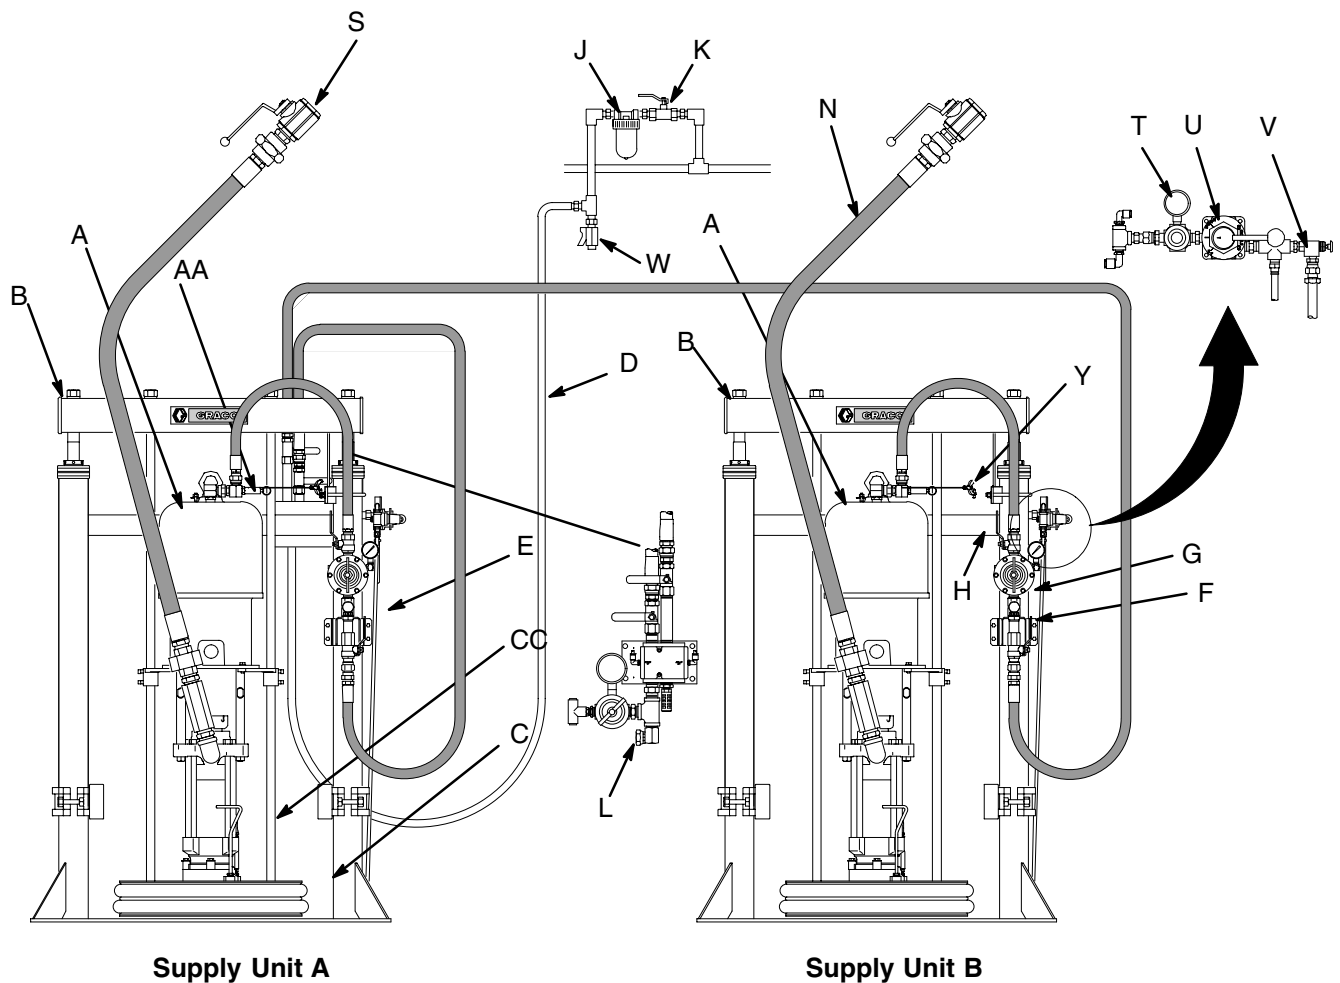
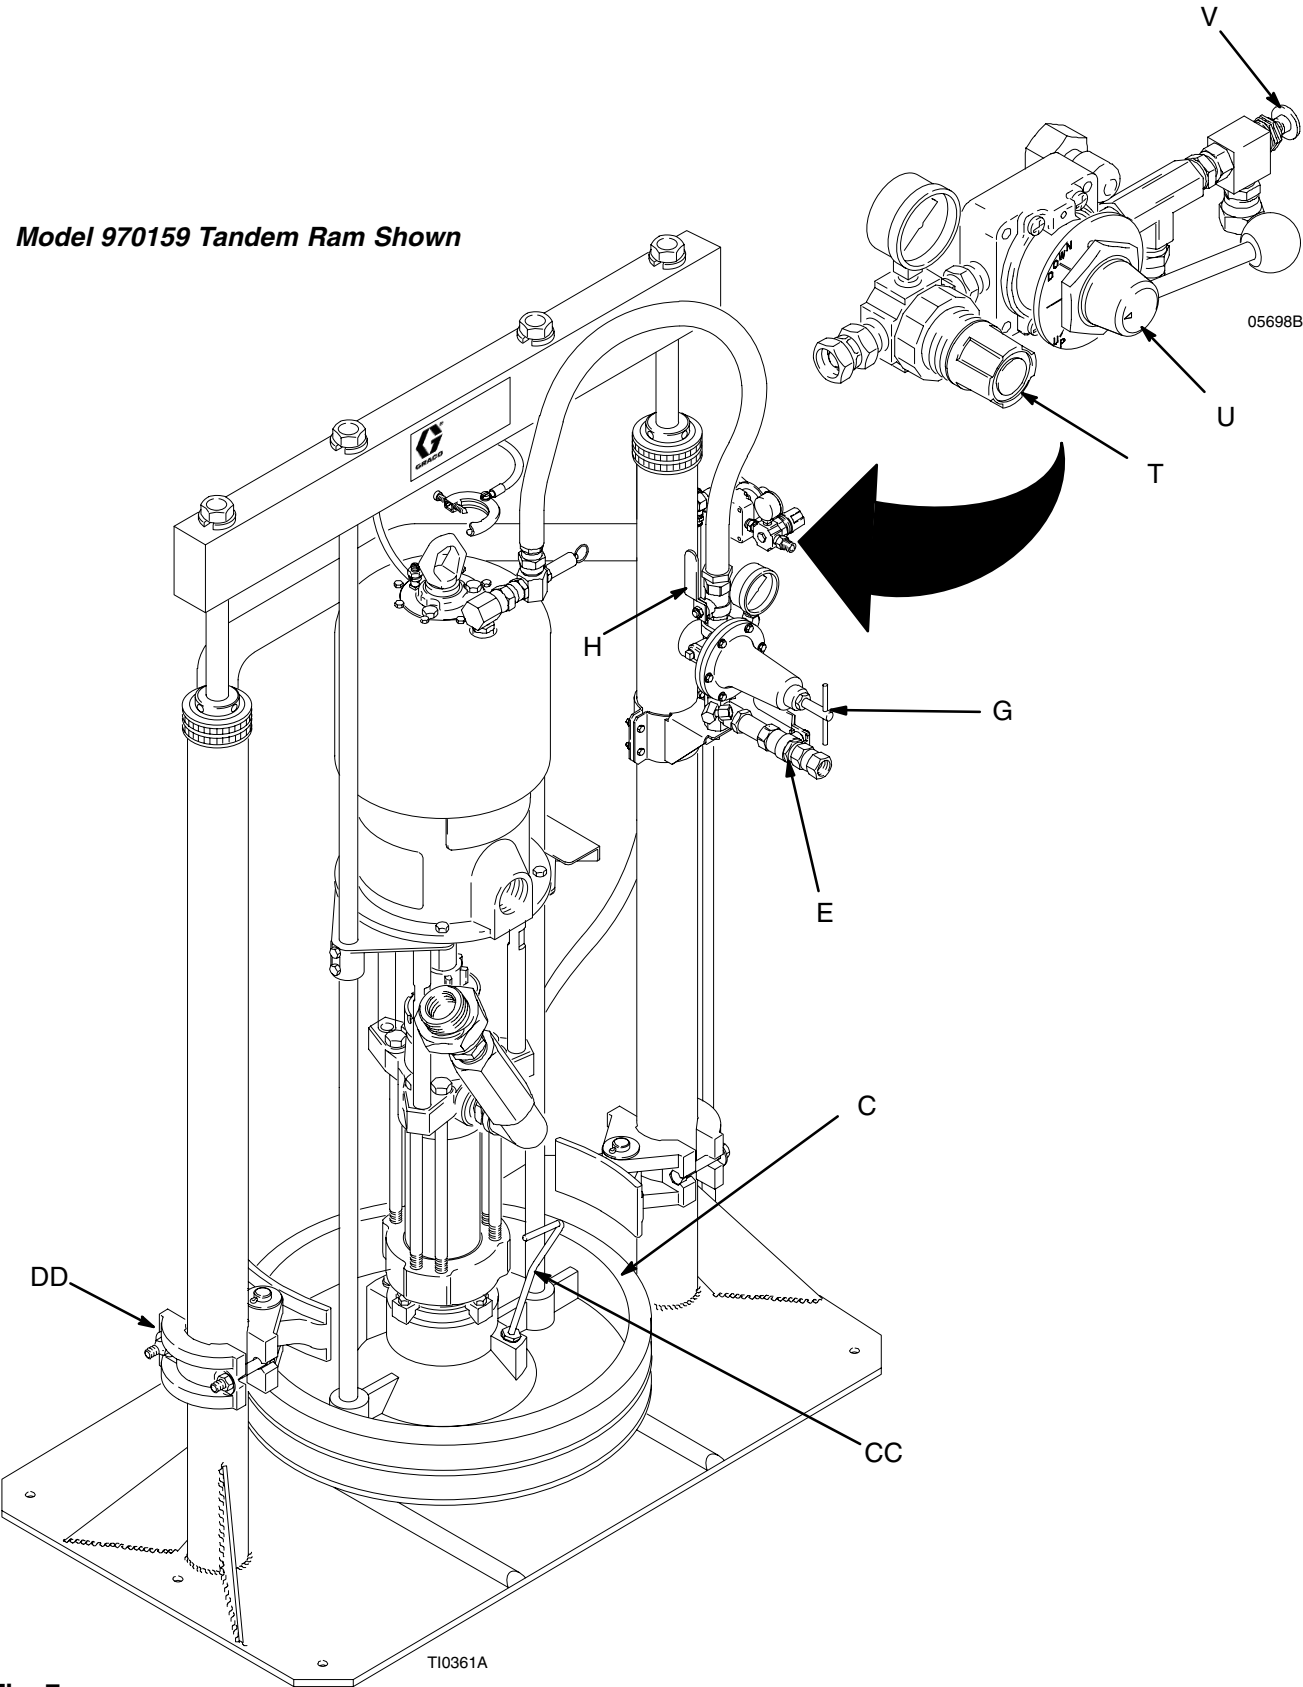

Fig. 1
Fig. 7
System 970159 includes a dual 55 gallon supply unit with pneumatic crossover for continuous material supply. System 970160 includes a dual 55 gallon supply unit with electric crossover for continuous material supply. System 970163 is a single 55 gallon supply unit with a low-level shutoff. See Fig. 1.
Be sure all air hoses (D) and fluid hoses (N) are properly sized and pressure-rated for your system. Use only electrically conductive hoses. See Fig. 1.
2. Close dispenser ball valves (S). Unhook ball valves from system. See Fig. 1.
3. Close pump air bleed valve (H, required in your system). See Fig. 1 or Fig. 7.
4. Shut off main air bleed valve (E, required in your system). Set ram director valve (U) to DOWN. Ram will slowly drop.
2. Close all air regulators and air valves. See Fig. 7.
3. Open main air bleed valve (E) and set ram air regulator (T) to 2.8 bar, 0.26 MPa (40 psi). Move director valve (U) handle so arrow points to UP, and let ram rise to full height.
4. Set full drum of fluid on ram base, slide drum back against tube stop, and center under ram plate (C). Use drum clamps (DD) to center, hold, and properly align drum with ram.
1. Be sure pump air regulator (G) is closed. Set ram air regulator (T) to 3.5 bar, 0.35 MPa (50 psi). Set director valve (U) to DOWN. See Fig. 7.
3. Keep director valve (U) set to DOWN while pump is operating.
1. Stop pump. Close pump air bleed valve (H). See Fig. 7.
2. Before raising wiper plate, locate push button on air release valve (V).
3. Set director valve (U) to UP to raise wiper plate. At the same time, carefully equalize pressure in drum by operating air release valve.
1. Set director valve (U) to neutral. See Fig. 7.